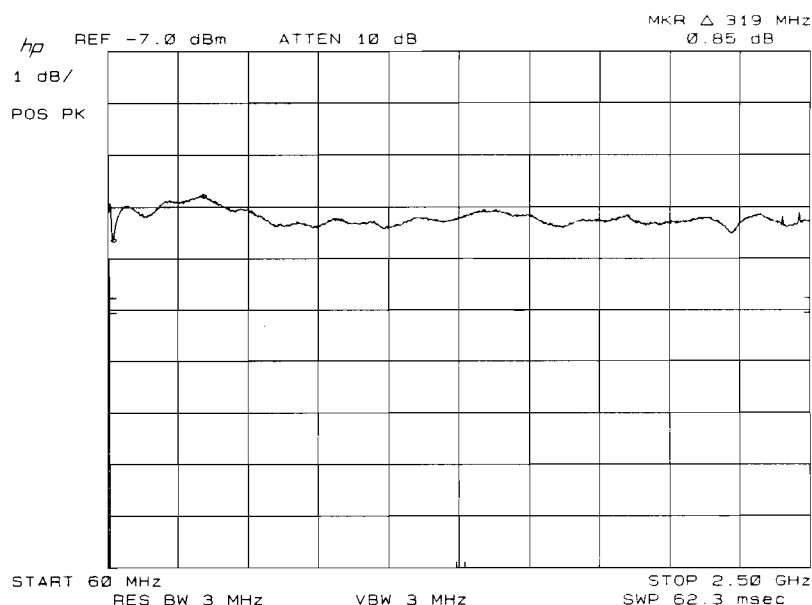

Figure 2-20.
47. On the synthesized sweeper, press **SWEEP** **SINGLE** and wait for a sweep to complete (150 seconds) and the **SWEEP LED** to turn off. As the synthesized sweeper tunes from 60 MHz to 2.5 GHz, the spectrum analyzer frequency response is displayed as **TRACE B** (**TRACE A** displays the current input signal). When the sweep has completed, the display should appear as shown in Figure 2-20.